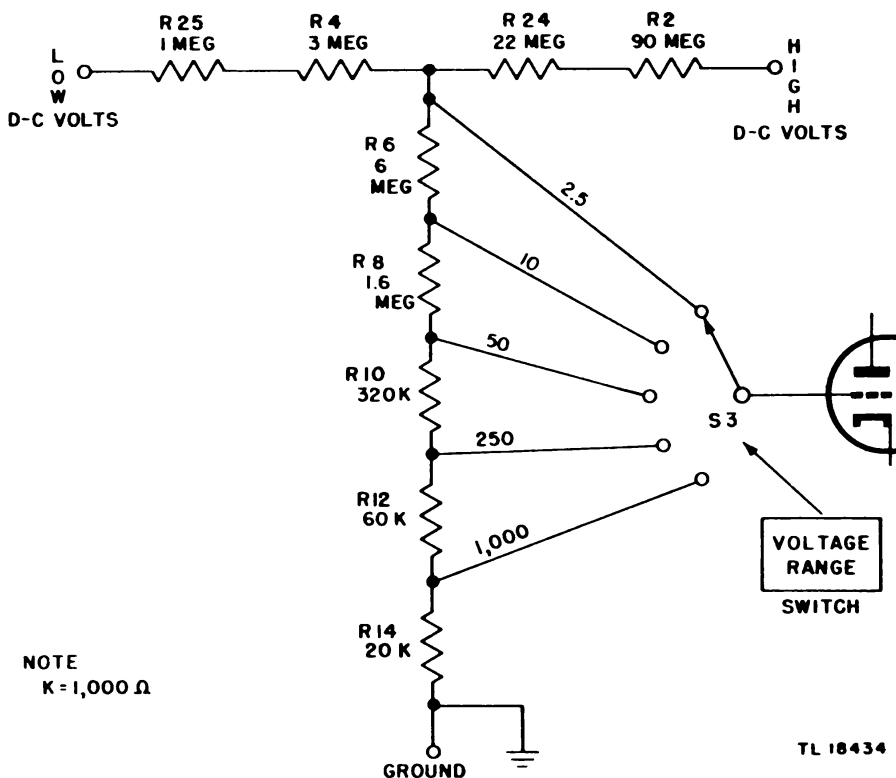

Figure 15. Simplified schematic diagram of d-c voltage divider resistor network.
c. Voltage-divider Resistor Network. If the voltage-divider resistor network were omitted from this circuit and a single resistor connected between the control grid of the bridge tube and ground, only voltages between 0 and approximately $1\frac{2}{3}$ volts could be applied to the grid of the tube. This is true since a voltage of $1\frac{2}{3}$ volts on the grid is made to cause full scale deflection of the meter when the calibration potentiometer (P2 or P3) is adjusted (see subpar. c(6) below). The bridge is so designed that meter readings are linear when voltages within this range are applied to the grid. The purpose of the voltage-divider network, therefore, is to reduce input voltages at the D.C. VOLTS LOW or D.C. VOLTS HIGH terminals to a proportionate value between 0 and $1\frac{2}{3}$ volts before application to the control grid. A more detailed explanation follows.
(1) Figure 15 shows a simplified schematic diagram of the voltage-divider resistor network with R25 and R24 having values of 1 megohm and 22 megohms, respectively. In this diagram, the total resistance between the D.C. LOW and GROUND terminals is 12 megohms while the total resistance between the D.C. HIGH and GROUND terminals is 120 megohms.
(2) When $2\frac{1}{2}$ volts is applied between the D.C. VOLTS LOW terminal and GROUND, a current of 0.000,000,208 amperes (0.208